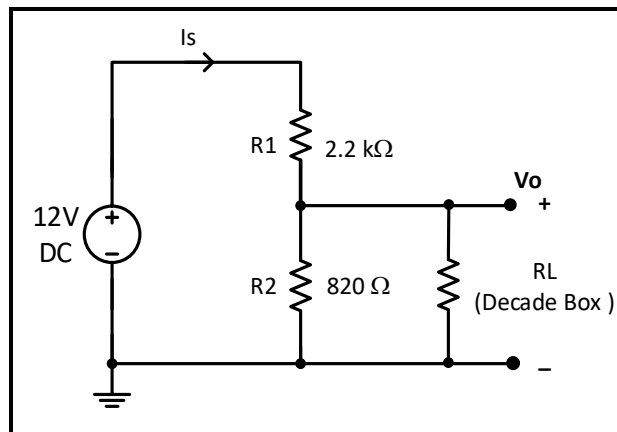

Figure 3.7
3. For the circuit shown in Figure 3.7, use PSPICE to find the value of V_o for $R_L = 1$ k Ω , 10 k Ω , 100 k Ω , 500 k Ω .
3. Connect the circuit of Figure 3.7.